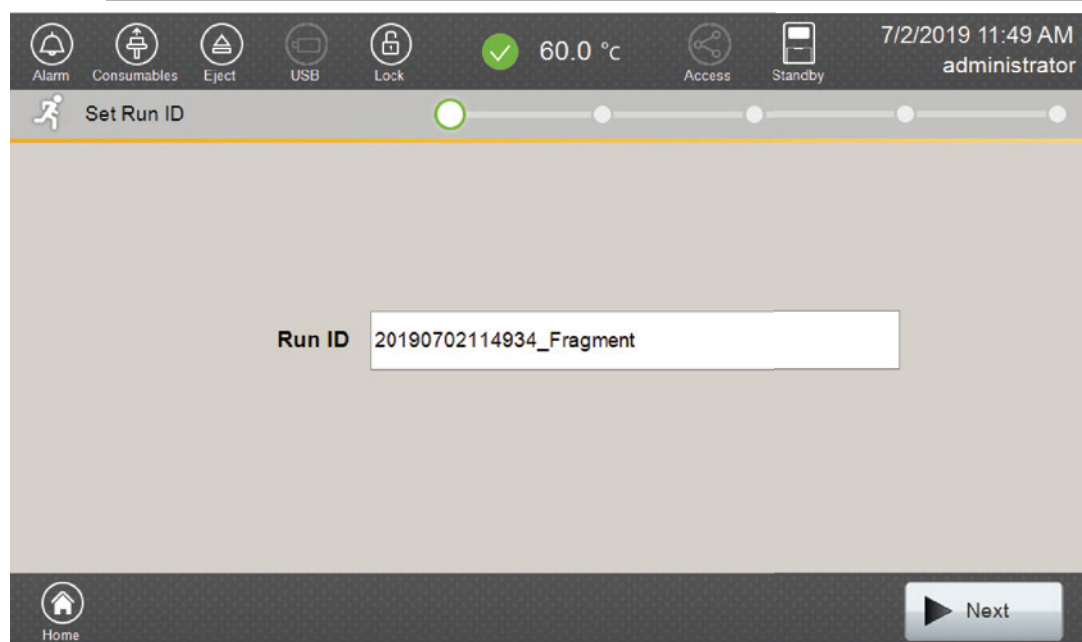

Figure 7. ‘Set Run ID’ screen.
4. Use the default name that includes date, time and “Fragment” or enter a Run ID on the ‘Set Run ID’ screen (Figure 7). Select the **Run ID** box to open the ‘Run ID’ window and a keypad will become active on the touch screen. Alternatively, the Run ID can be entered using a traditional keyboard if one is connected to the Spectrum Compact CE System.